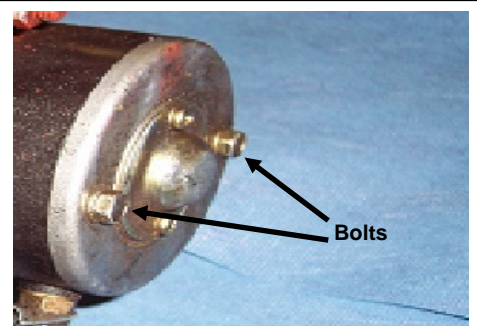

Figure 3 Bolt locations on motor
- 2) Loosen and remove the two bolts from the end of the motor and remove the motor from the port plate. **(See Figure 3)**